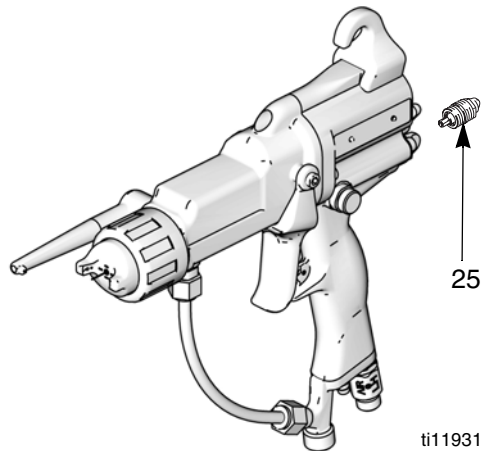

Fig. 20. Fluid Adjustment Valve
2. Remove the fluid adjustment valve (25). It can only be replaced as a complete assembly. See FIG. 20..
3. Screw the valve (25) into the gun handle. Torque to 15-25 in-lb (1.7-2.8 N•m).